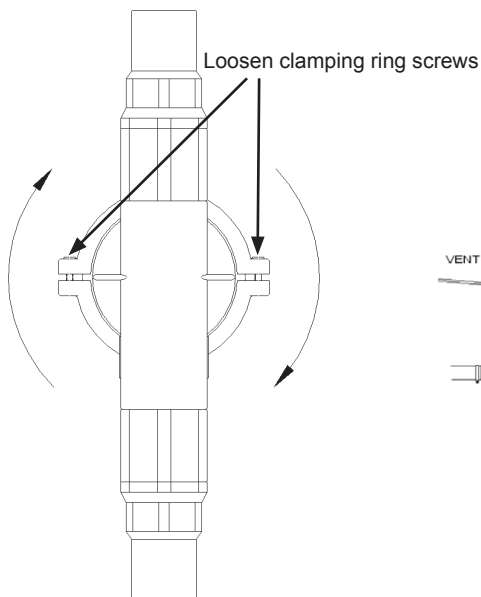

Fig. 3 Altering Flow Direction
3. Direction of flow can easily be altered by loosening the screws which hold the clamping rings. Rotate the pump head to the required angle, check direction of flow and re-tighten (Fig 3).